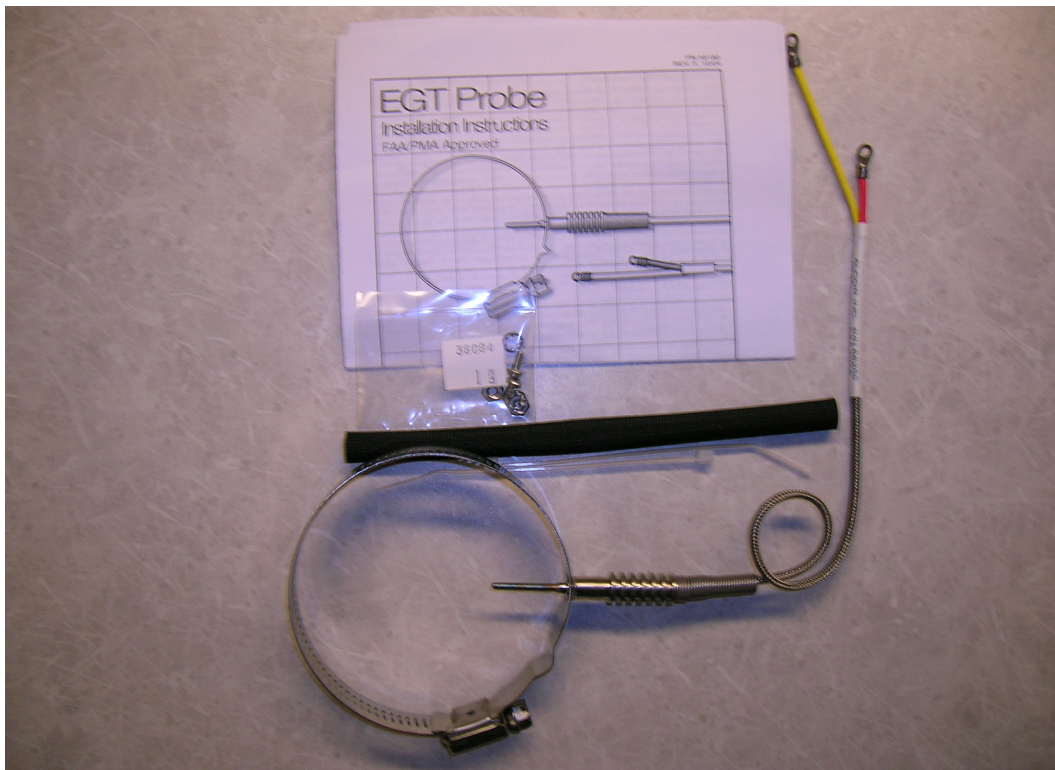
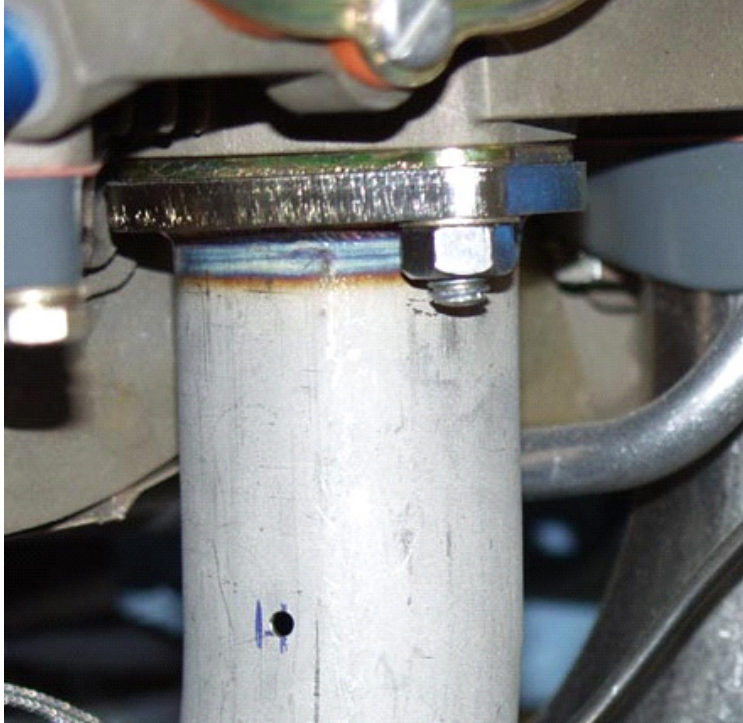
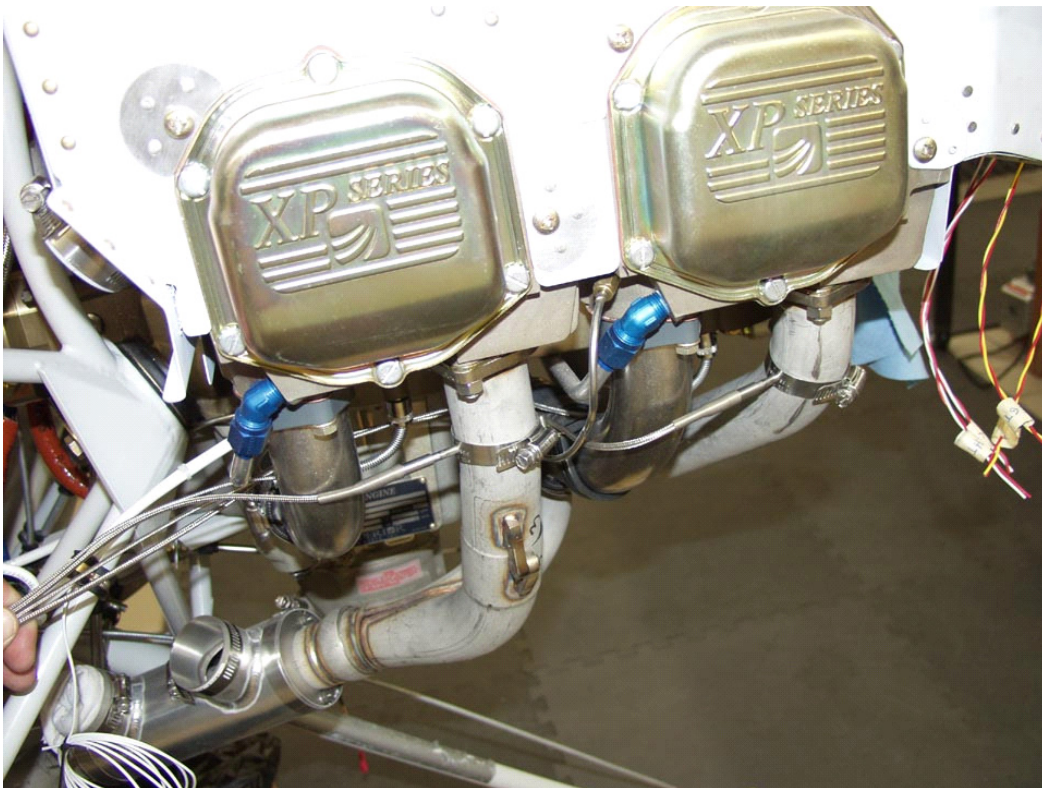

Figure 14-5 EGT Package
Figure 14-6 Exhaust Pipe Drilled
Figure 14-7 Installed EGT Probe Orientation
Perform the following steps and refer to Figure 14-5, Figure 14-6, and Figure 14-7 to install an EGT sensor.
1. EGT probes (Figure 14-5) should optimally be mounted between 2 and 4 inches from the cylinder head on a flat portion of the exhaust tube. To maintain consistent readings across cylinders, all probes should be mounted an equal distance from the exhaust flanges.
2. Carefully center punch the probe hole locations so that the external portion of the probe does not interfere with any other parts of the engine or cowling (Figure 14-6). It may be desirable to angle the probes towards the rear of the engine to allow efficient wire routing back to the cockpit. If angling the probes towards the rear of the engine, take care to ensure that sufficient clearance is provided to service the spark plugs.
4. Connect the EGT probes to the thermocouple extension wire. Provide strain relief for the assembly by either fastening the probe leads to the valve covers with a clamp, or by tying the extension wire to the intake tubes or other suitable location. A finger-sized loop should be provided to allow appropriate strain relief, and care should be taken to ensure that no chafing of the wires occurs. See Figure 14-7 for an example of an installed EGT probe.